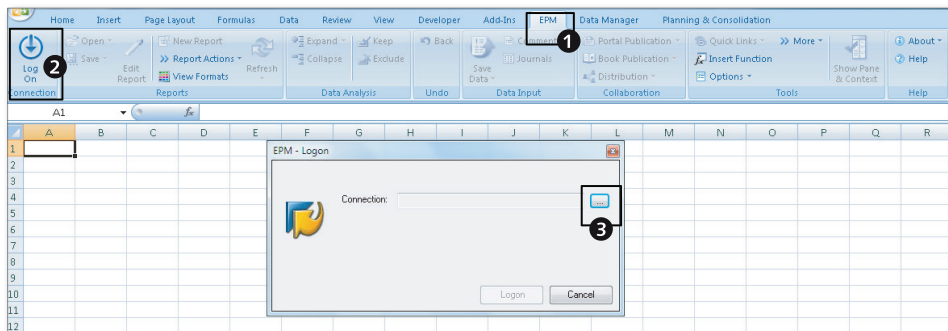
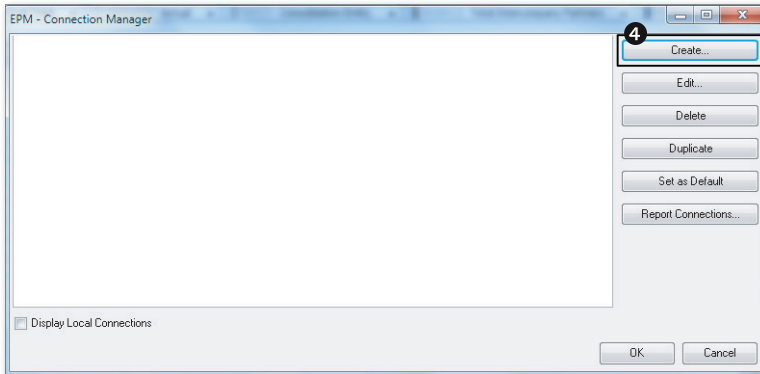

Figure 5.1 Creating a Manual Connection—Part A
Figure 5.2 Creating a Manual Connection—Part B
1. Launch the EPM add-in directly from the desktop by opening Microsoft Excel and then clicking the EPM tab (Figure 5.1, ❶).
2. Click on the **LOG ON** button to connect (Figure 5.1, ❷).
3. This opens the EPM – LOGON dialog box. Click on the ellipsis icon to select a connection (Figure 5.1, ❸). A new dialog box, EPM – CONNECTION MANAGER, opens to maintain connections or select an existing connection (Figure 5.2).
4. To create a new connection, click on the CREATE button (Figure 5.2, 4). This opens a new dialog box, CREATE CONNECTION, for the user to specify the connection parameters.